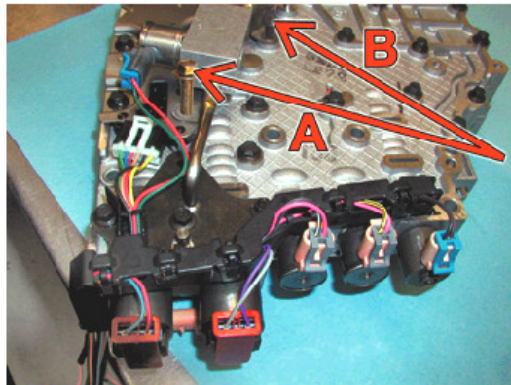

Figure 12: Reassembly
15) Install the long gold bolt (Figure 12, Arrow A), and the other bolt that holds the tube and pressure manifold block to the lower valve body (Figure 12, Arrow B).